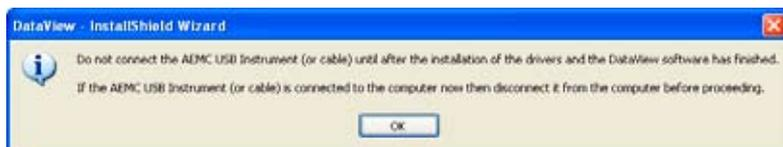

Figure 7-3
9. If the instrument selected for installation requires the use of a USB port, a warning box will appear, similar to Figure 7-3. Click **OK**.